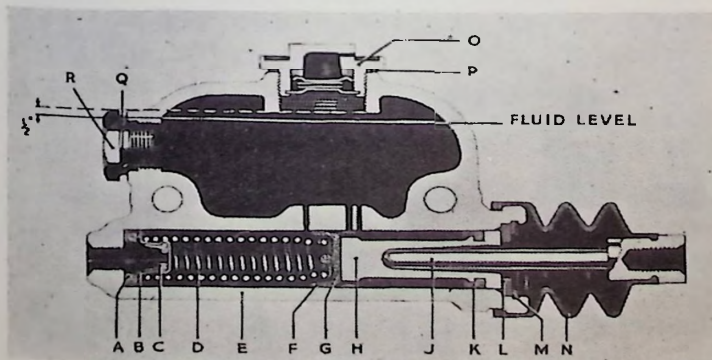

Fig. 3. Fluid Level.
The integral barrel type master cylinder, see Fig. 3, page H5, incorporates the master cylinder and the fluid reservoir. In the head of the cylinder (E) is an inlet and outlet valve consisting of a metal body (B) containing a rubber cup (C), and a rubber washer (A) on which the metal body is urged by a return spring (D). The function of the valve is to prevent the return, to the master cylinder, of fluid pumped into the "line" during the bleeding operation, thereby ensuring that a charge of fresh fluid will be delivered at each stroke of the brake pedal and a complete purge of air from the system. During normal operation, fluid returning under pressure and assisted by the effort of the brake shoe pull-off springs, lifts the valve off its seat, thereby permitting fluid to return to the master cylinder and the brake shoes to the "off" position.
Detach the rubber boot (N), see Fig. 3 from the cylinder (E) and withdraw the push rod from the boot. Push the piston (H) down the bore of the cylinder to release the pressure on the piston stop (L), remove the circlip (M) and the piston stop. Withdraw the piston, the dished washer (S), rubber cup (F), return spring (D), valve body (B), complete with rubber cup (C) and the rubber